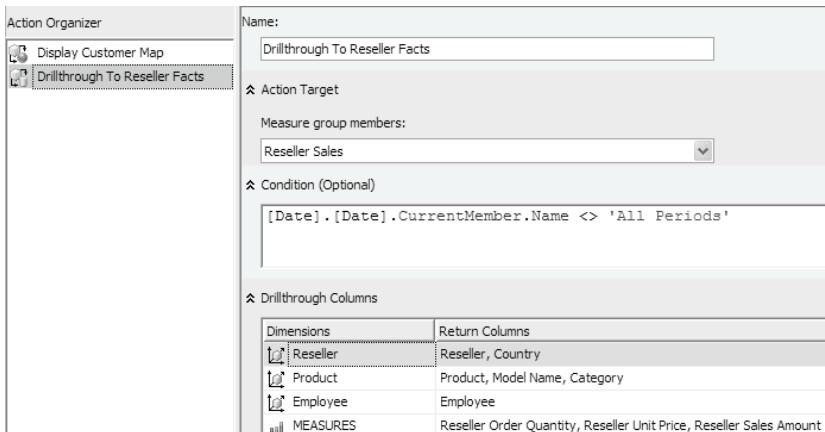

Figure 12.14 Drillthrough actions can target only measure groups but can return attributes from related dimensions.
2. Name the action *Drillthrough To Reseller Facts* (Figure 12.14).